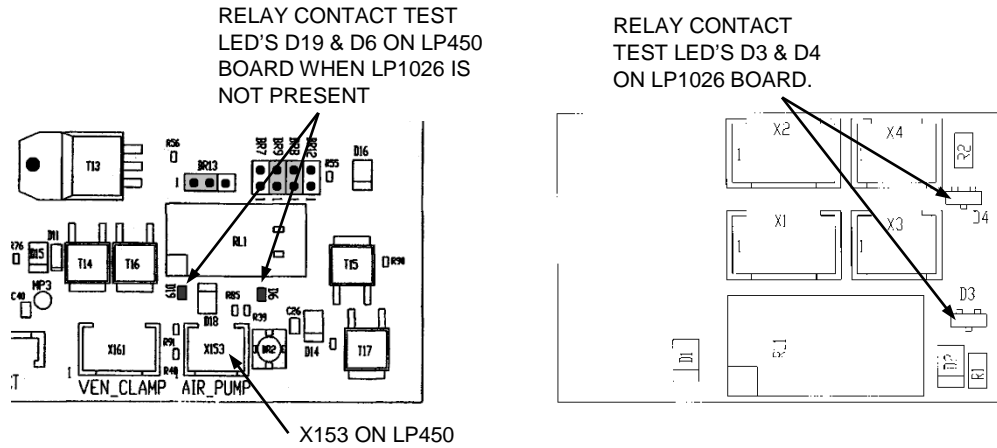

Figure 9 - Level Detector with Relay Contest Test LED's.
- Use **Method 1** if LP450 has LED's D6 & D19 (See Figure 9)
- Use **Method 2** if LP450 does not have relay test LED's then locate a separate relay board LP1026 with test LED's D3 & D4 (See Figure 9).